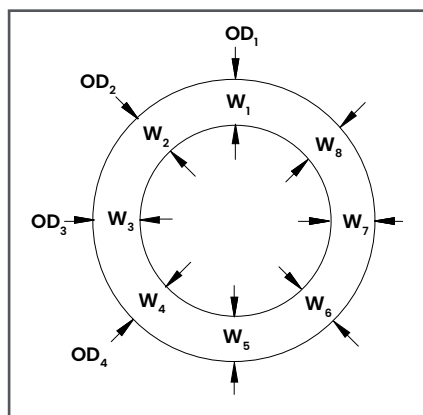

Figure 15: Measuring the OD and Pipe Wall Thickness
4. Now measure the OD and the wall thickness at eight points along the pipe circumference at 45° intervals (shown in *Figure 15*), three times per point, and record the mean values.
2. To determine the PT878GC correction factor, calculate the mean inside pipe diameter (ID) and the pipe ID at the transducer locations. Then divide the square of the mean ID by the square of the ID at the transducer location, as shown in the equations below, where ODX is the outside diameter at a given point, and WX is the wall thickness at a given point (as shown in *Figure 15 on page 17*).